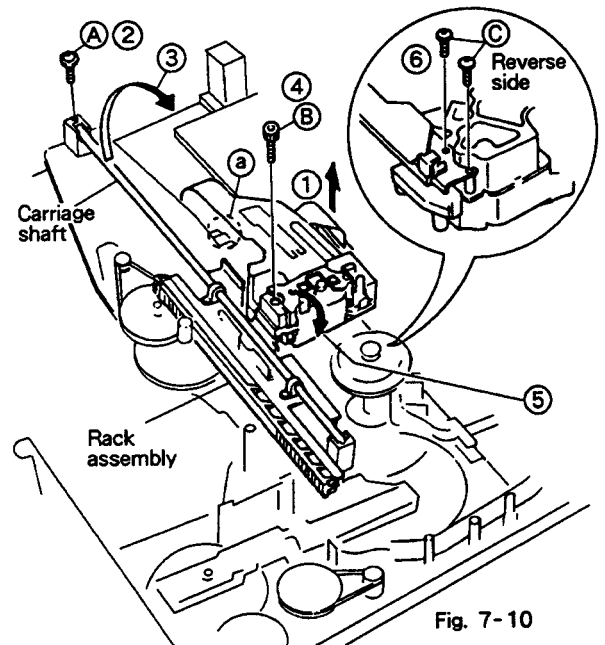

Fig. 7-10
7.6 REMOVING THE PICKUP ASSEMBLY (Fig. 7-10)
- ① Remove the flexible board from the connector and also remove the flexible board installed at section ③.
- ② Remove a screw (A) holding the carriage shaft.
- ③ Raise the shaft in the direction of the arrow to remove the rack assembly.
- ④ Remove a hexagonal screw (B) and lift up the pickup assembly slightly and turn the pickup assembly in the direction of arrow ⑤.
- ⑤ Remove two screws (C) on the back of the pickup assembly.